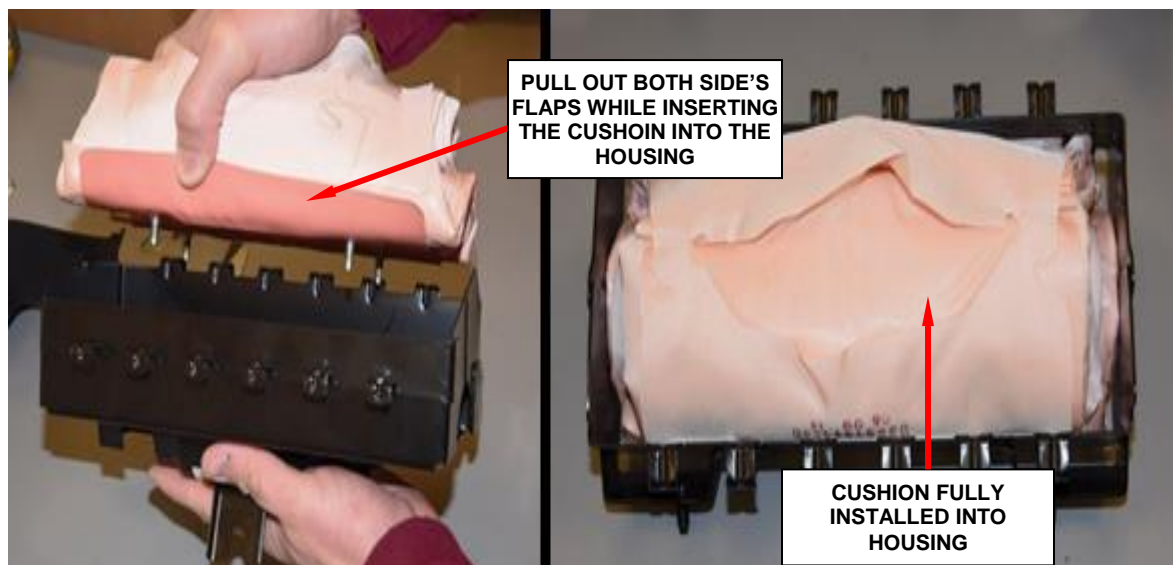

Figure 180 - Side Flaps Must Be Held Out
- j. Insert the cushion, pulling out both side flaps (Figure 180).